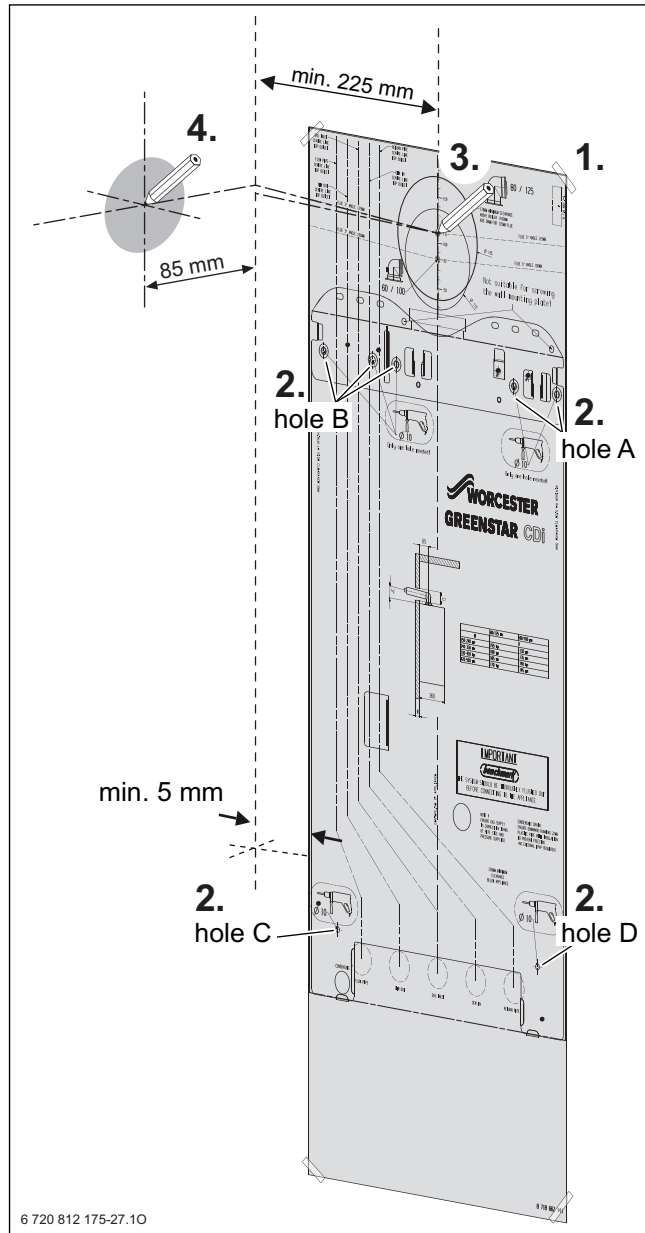

Fig. 28 Mounting template
- Fig. 28 shows the relative positions of the flue and the fixing of the wall mounting plate including hanging bracket and pre-plumbing manifold.
- Follow the Fig. 28 to mark the centre of the flue for rear outlet (3) or for side outlet (4).